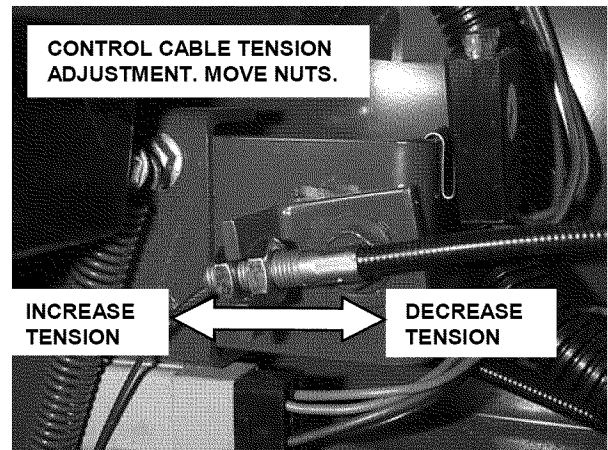

FIGURE 4.4
5. The threaded fitting on the end of the control cable provides fine tension adjustments. See Figure 4.4. Loosen jam nuts and turn nuts until spring extension falls in the range of $3/8"$ to $1/2"$. Tighten nuts securely. Move blade control lever to the OFF position. Install cover (refer to note below) and tighten screws securely.